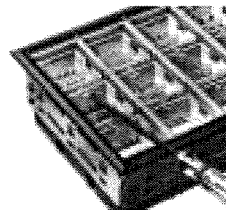

Figure 6: Remove LED
**To remove:** Insert the tip of a screwdriver into one of the two slots inside the LED unit. Pull the LED unit straight out without pressing on the LED terminals, as shown in *Figure 6*.